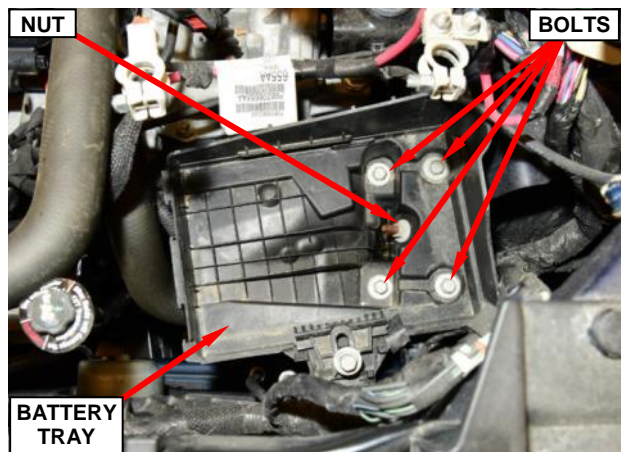

Figure 9 – Battery Tray
27. Remove and save the four bolts and one nut securing the battery tray to the left frame rail (Figure 9).
28. Remove and save the battery tray (Figure 9).